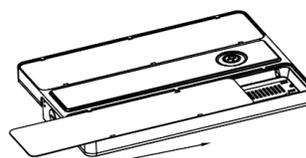

Fig. 11
3. Slide chosen optics on the luminaire. The smooth surface of the optics should be on the inside while the prismatic surface should be on the outside. (Fig. 11)